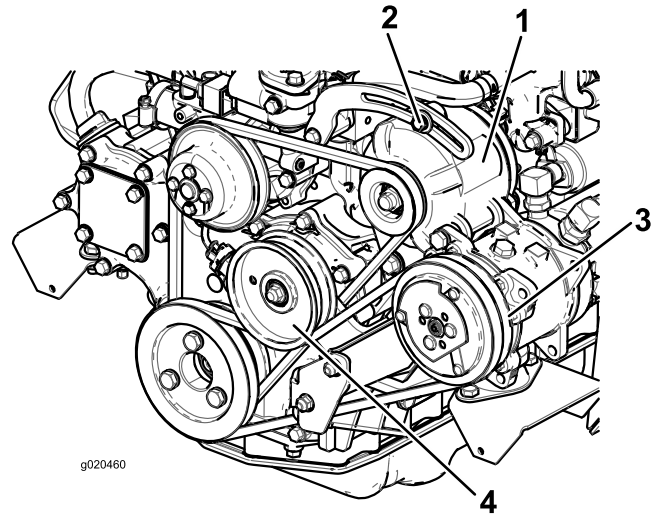

Figure 69
Check the condition and tension of the belt (Figure 69) after every 100 operating hours.
2. If the deflection is not 10 mm (3/8 inch), loosen the alternator mounting bolts (Figure 69). Increase or decrease the alternator belt tension and tighten the bolts. Check the deflection of the belt again to ensure that the tension is correct.
2. If the deflection is not 10 mm (3/8 inch), loosen the idler pulley mounting bolt (Figure 69). Increase or